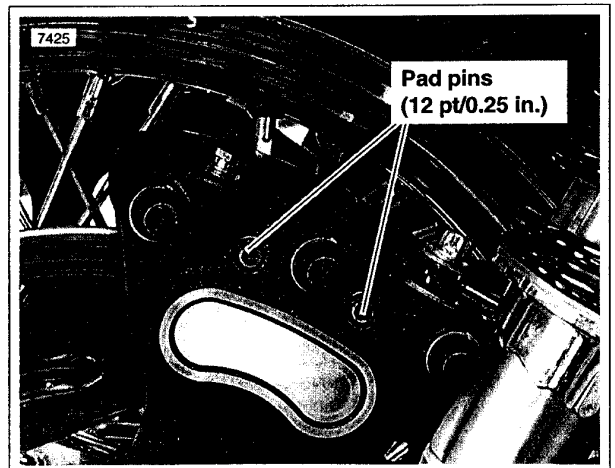

Figure 1-16. Pad Retaining Bolts (Rear Caliper Shown)
3. See Figure 1-16. Loosen, but do not remove, both pad pins (12 pt/0.25 in.).